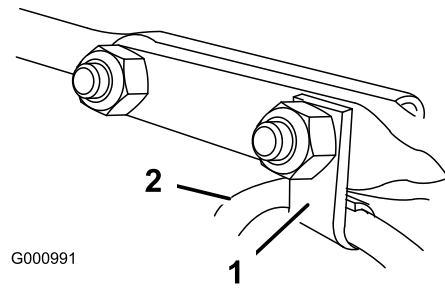

Figure 17
6. Insert the cable clip that supports the deflector cable onto the forward carriage bolt, and secure the carriage bolts with locknuts from the loose parts bag (Figure 17).